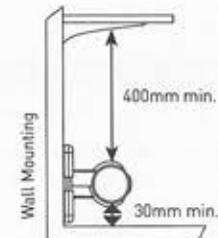

Fig.4
- Follow minimum clearances below and above the heater as shown in [FIG.4].